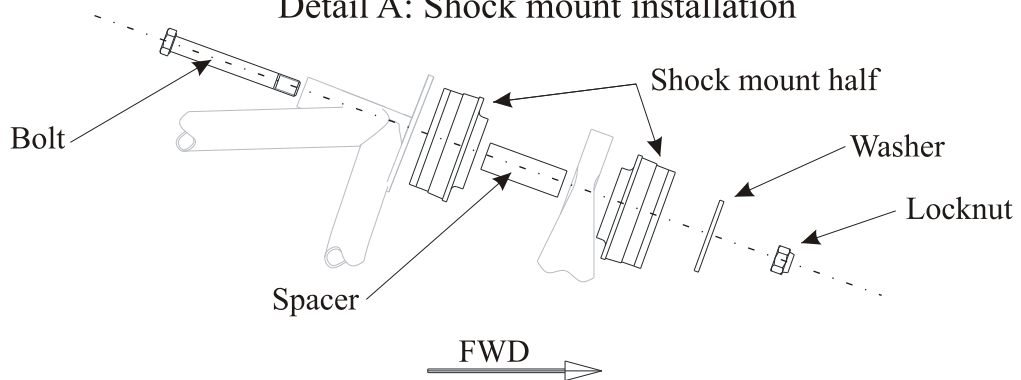

Figure 3
The engine is nested into the engine mount on a system of rubber shock mounts, each of which comprises two rubber elements and one tubular spacer (ref. Figure 3). The shock mounts reduce the transmission of engine vibrations to the airframe.
- 2 Unscrew locknuts of the mounting bolts (refer to Detail A on Figure 3) at the shock mounts.
Each of the 4 shock mounts consists of two rubber halves and one tubular spacer (ref. Figure 3, Detail A) fixed by a single bolt.
- 2 Unscrew locknut of the mounting bolt at *one* shock mount (ref. Figure 3, Detail A).